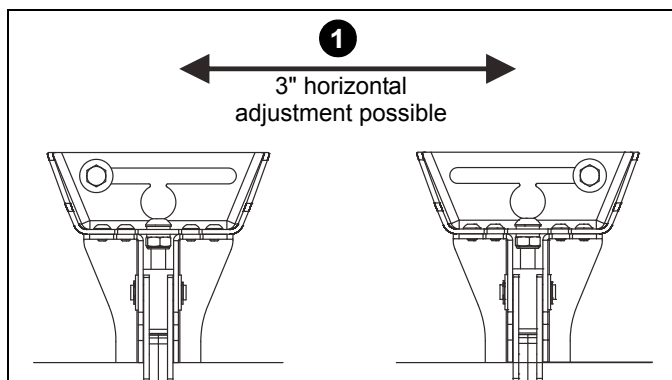

Figure 12
1. The mount wall brackets may be adjusted side to side at the point of attachment. (See Figure 12)